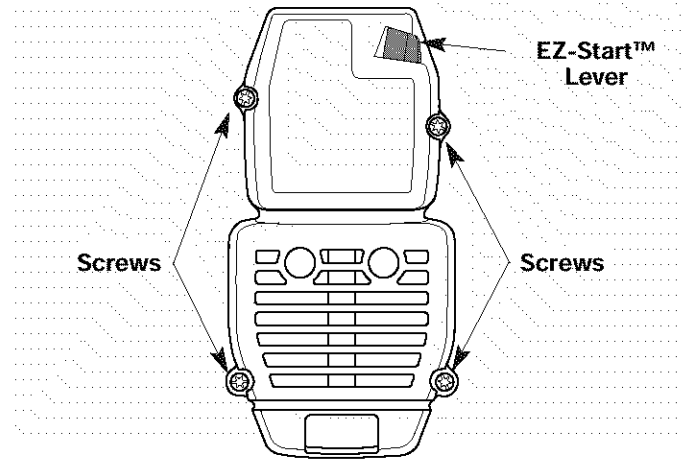

Fig. 36
1. Remove the four (4) screws securing the air filter/muffler cover (Fig. 36). Use a flat blade or T20 Torx bit screwdriver.
- Insert the four (4) screws into the holes in the air filter/muffler cover (Fig. 36, Pg. 20) and tighten. **Do not over tighten.**